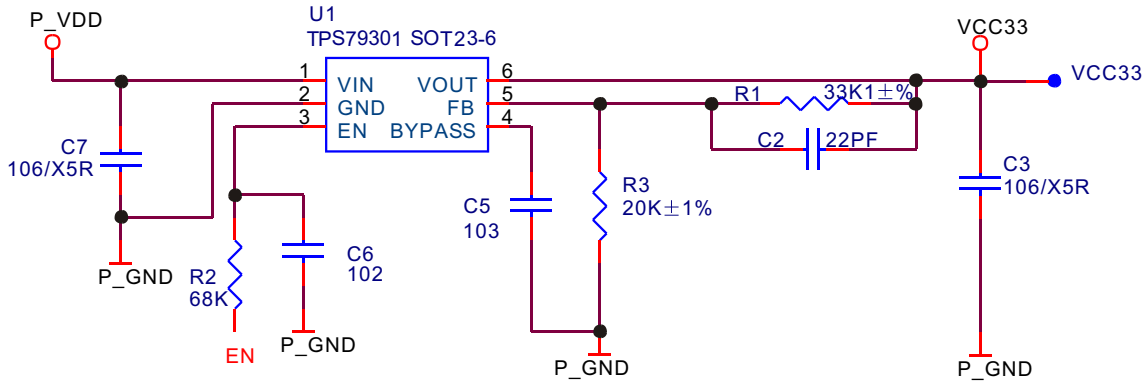

Figure 3.2.8.1 3.3V power circuit
1. 3.3V power circuit is shown in the figure 3.2.8.1: